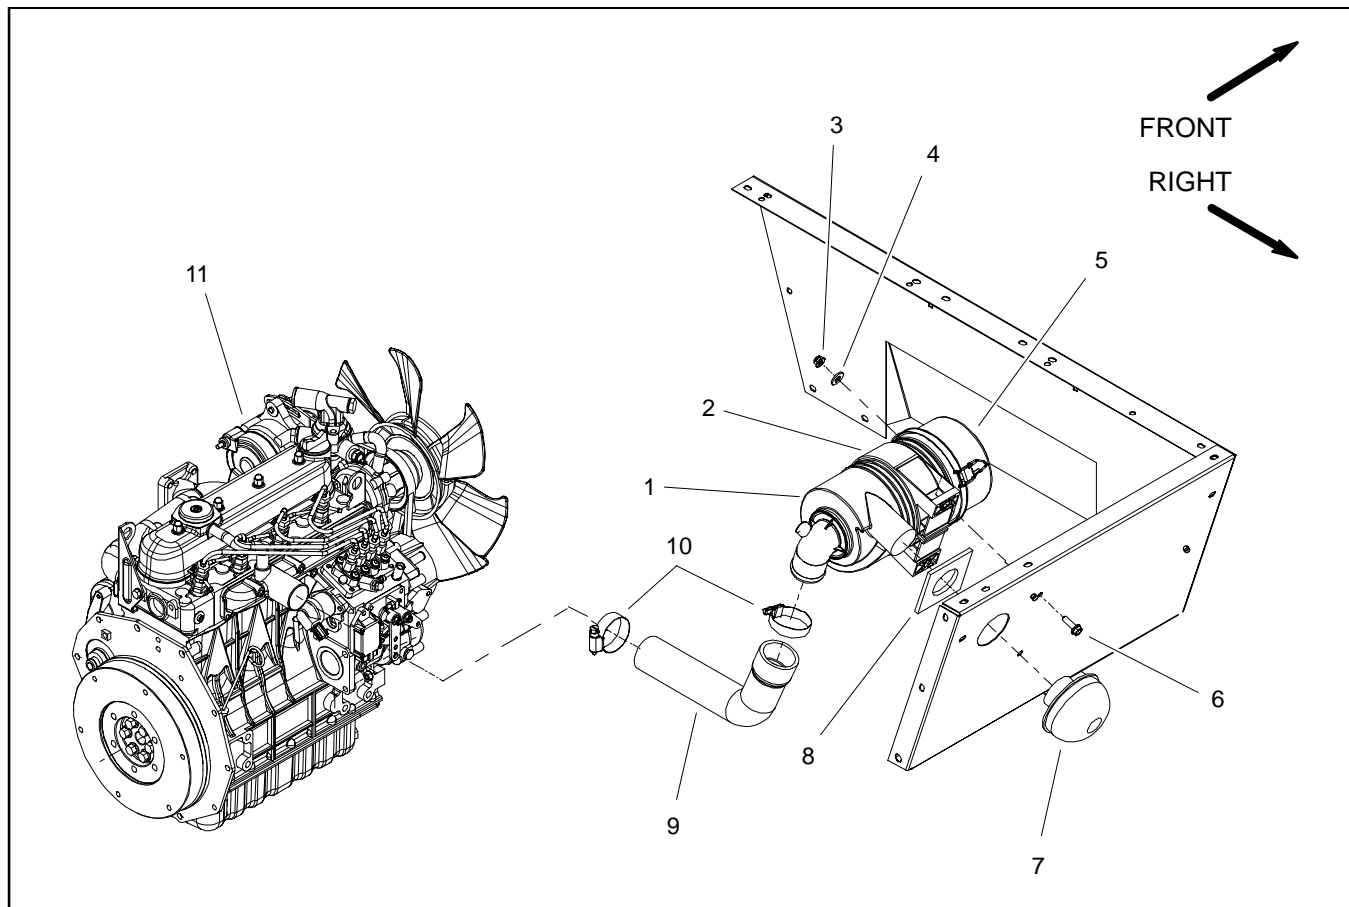
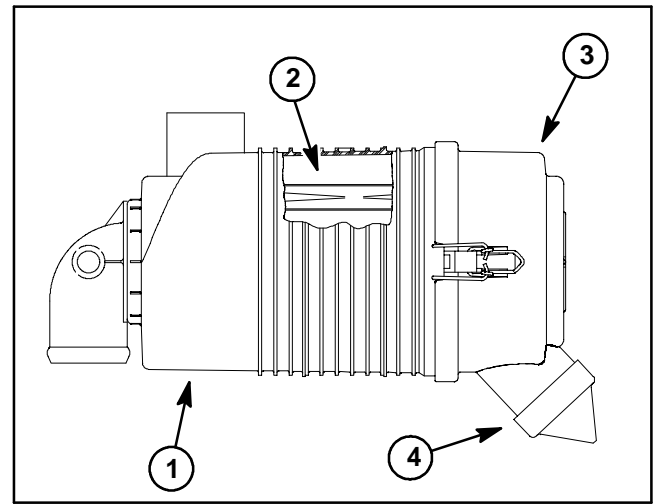

Figure 5
Figure 6
Removal (Fig. 5)
2. Remove air cleaner components as needed using Figure 5 as a guide.
Installation (Fig. 5)
1. Assemble air cleaner system using Figure 5 as a guide. Make sure that vacuator valve on air cleaner cover points downward after assembly (Fig. 6).